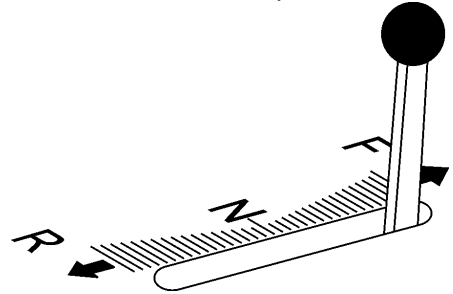

Figure 29. Travel Lever (Forward Position)
3. Move the travel lever towards the **FORWARD** position to increase forward travel speed during cutting (Figure 29). Placing the travel lever fully forward will move the saw at maximum speed.